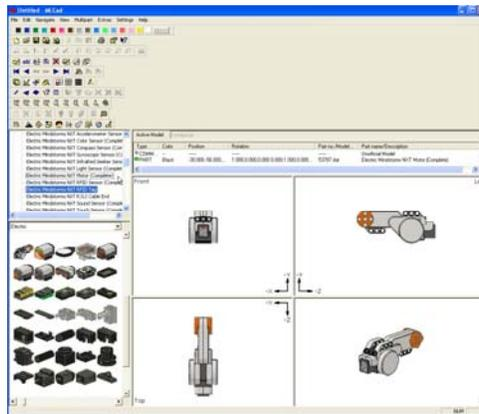

Figure 1C: MLCAD with NXT parts
- A. From Upper Left Pane parts tree, open "Electric" and scroll down to see "Electric Mindstorms NXT..." You should be able to click any of these and drag unto the main quad (front, left, top views). See **Figure 1C** for example.